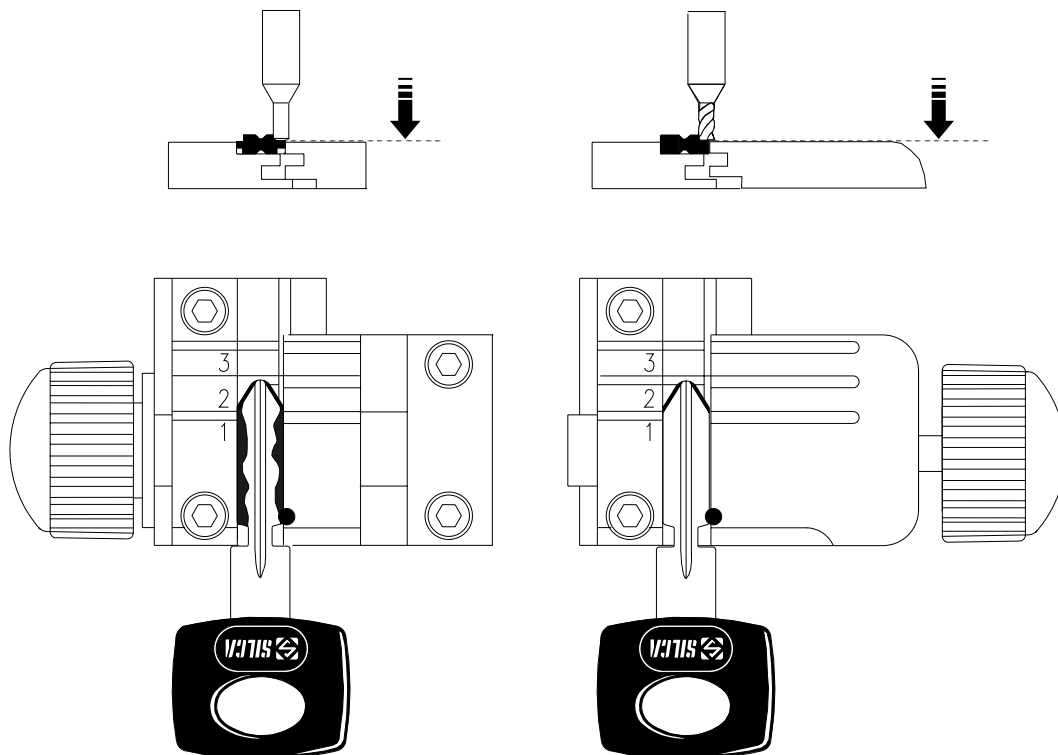

Fig. 19
- 1) Before activating the start switch (Q), lower lever (I) close to the keys and regulate the spring system for laser (sidewinder) keys (ch. 5.3) with knob (O).
- 2) Start the cutting operation by activating switch (Q).
- 3) Lower the spindle, cut the key and stop at the beginning of the cut (fig. 19).